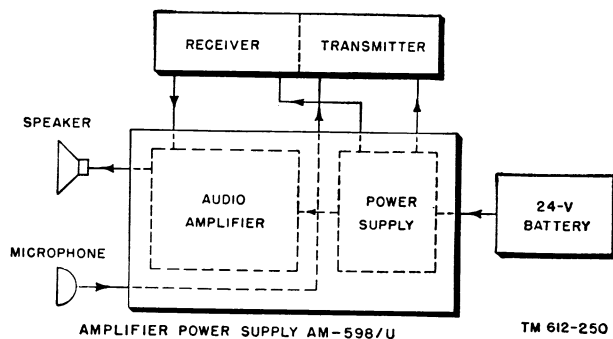

Figure 24. Amplifier Power Supply AM-598/U, system application.
a. Amplifier Power Supply AM-598/U is a vibrator type power supply which adapts Radio Sets AN/PRC-8, -9, and -10 for vehicular use. The power supply operates only from a 24-volt d-c source. It supplies the complete power requirements of the radio set and, in addition, contains an audio amplifier for operation of a 600-ohm speaker. A block diagram of the power supply installation is shown in figure 24. A detailed discussion of the power supply will be given in a separate instruction book, when published.